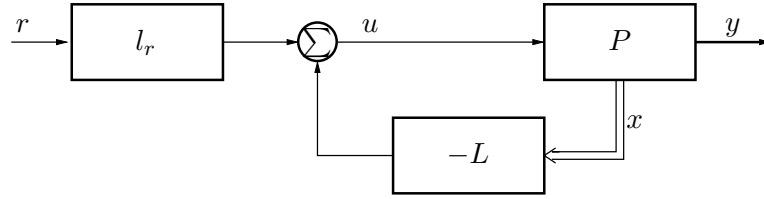

Figure 8.2 The system in Problem 8.4.
8.4 Consider the block-diagram in Fig. 8.2. This is an illustration of the state-feedback scheme. Determine a control law $u = l_r r - Lx$ for